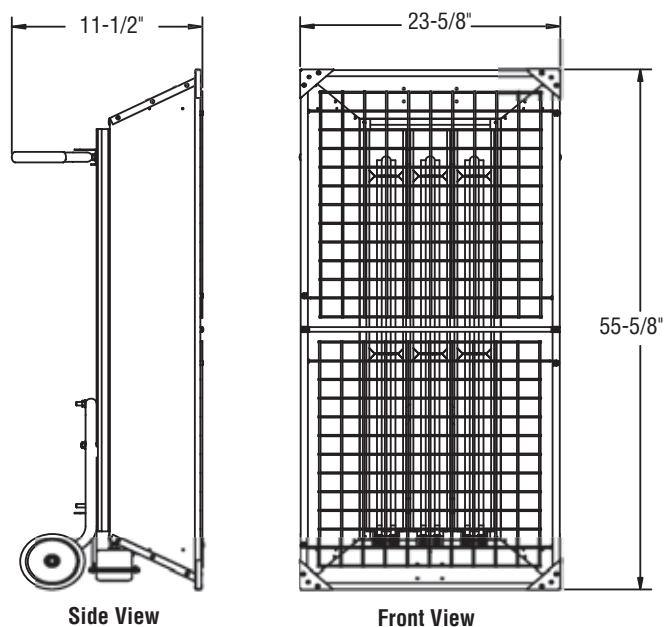

Figure 4
5. All 3 element heaters are factory pre-wired for 3-phase delta operation. Some units can be converted to single phase operation by changing the wiring. Refer to Table 1 for those heaters that can be converted to single phase. The appropriate wiring diagram (Figure 4) is also located on the bottom of the enclosure.